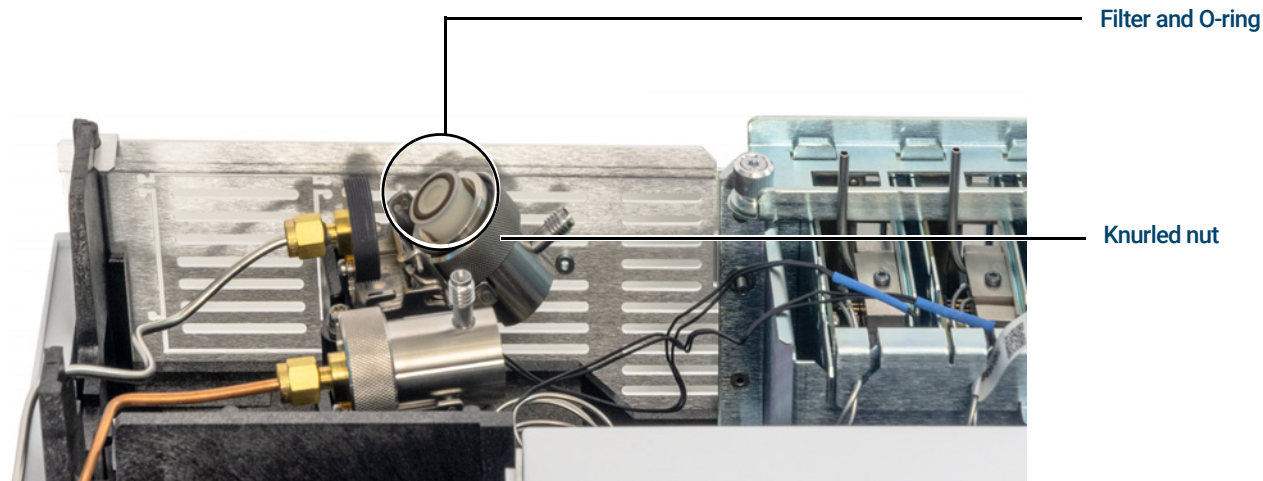

Figure 39. Slide trap assembly to expose the filter
- 5 Slide the trap assembly back from the guided mounting bracket and tilt up to expose the filter as shown in Figure 39.